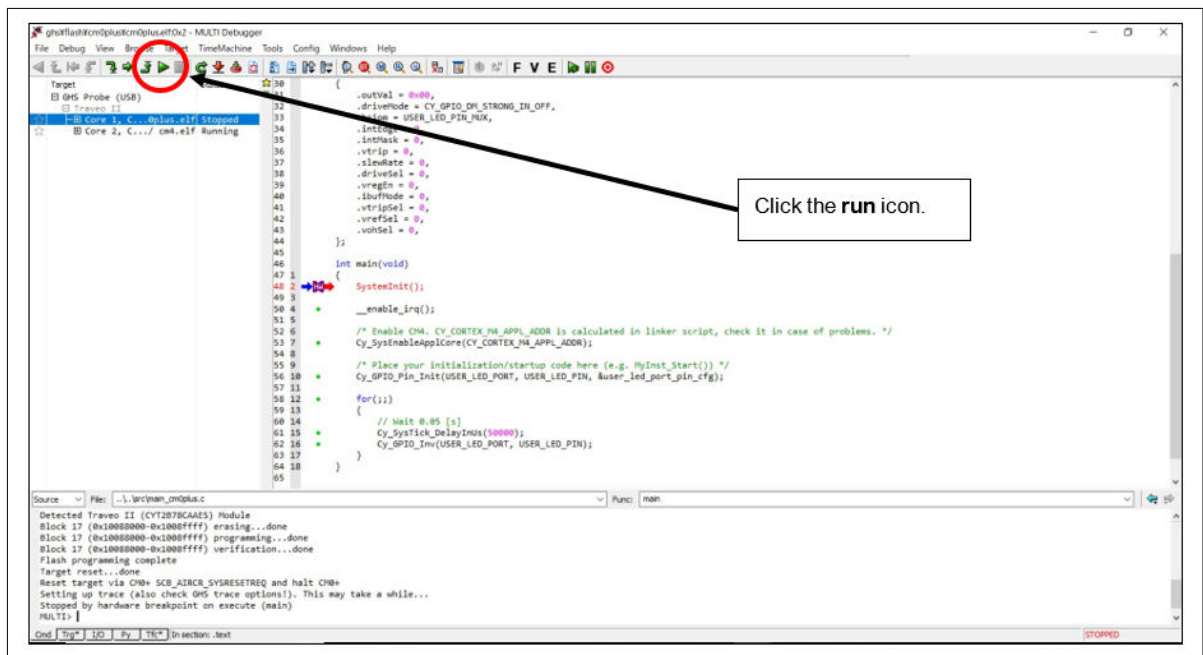

Figure 19 Execution on Flash memory
4. Click the **run** icon as shown in Figure 19.